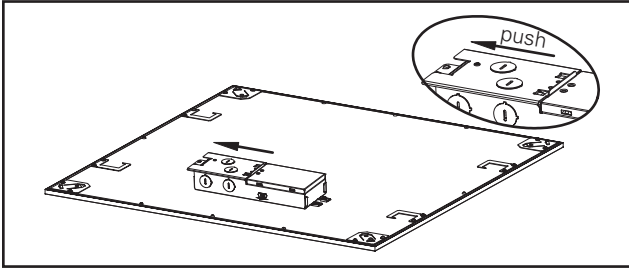

Figure 1.
3. Locate fixture junction box cover and slide to remove it (Fig. 1).